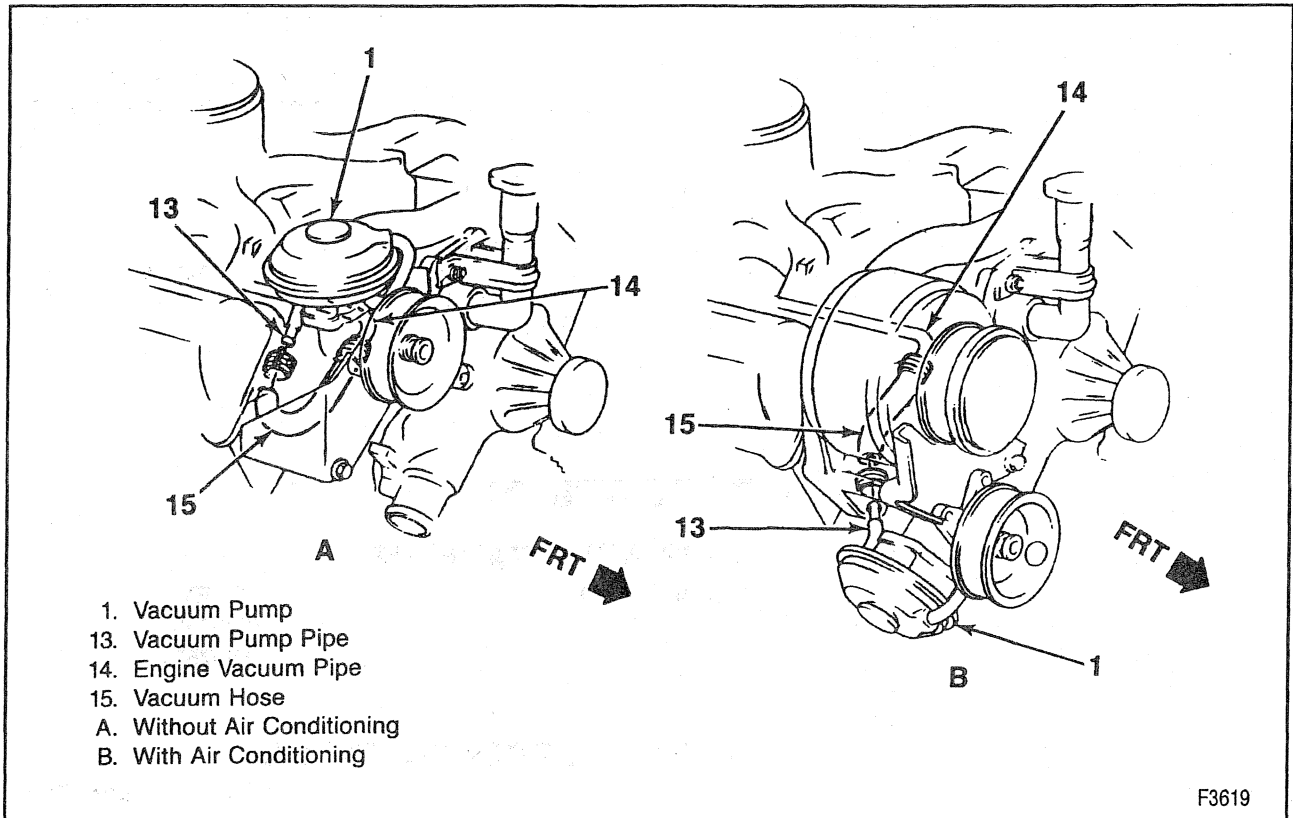

Figure 5—Vacuum Pump Hose
- 5. Vacuum hose (15) off the vacuum pipe (14), leaving the hose attached to the pump (figure 5).
3. Vacuum hose (15) (figure 5). **(Vehicles with Air Conditioning)**
4. Vacuum pump and bracket assembly to the engine with bolt (12) and nuts (3).
5. Vacuum hose (15) to the engine vacuum pipe (14) (figure 5).